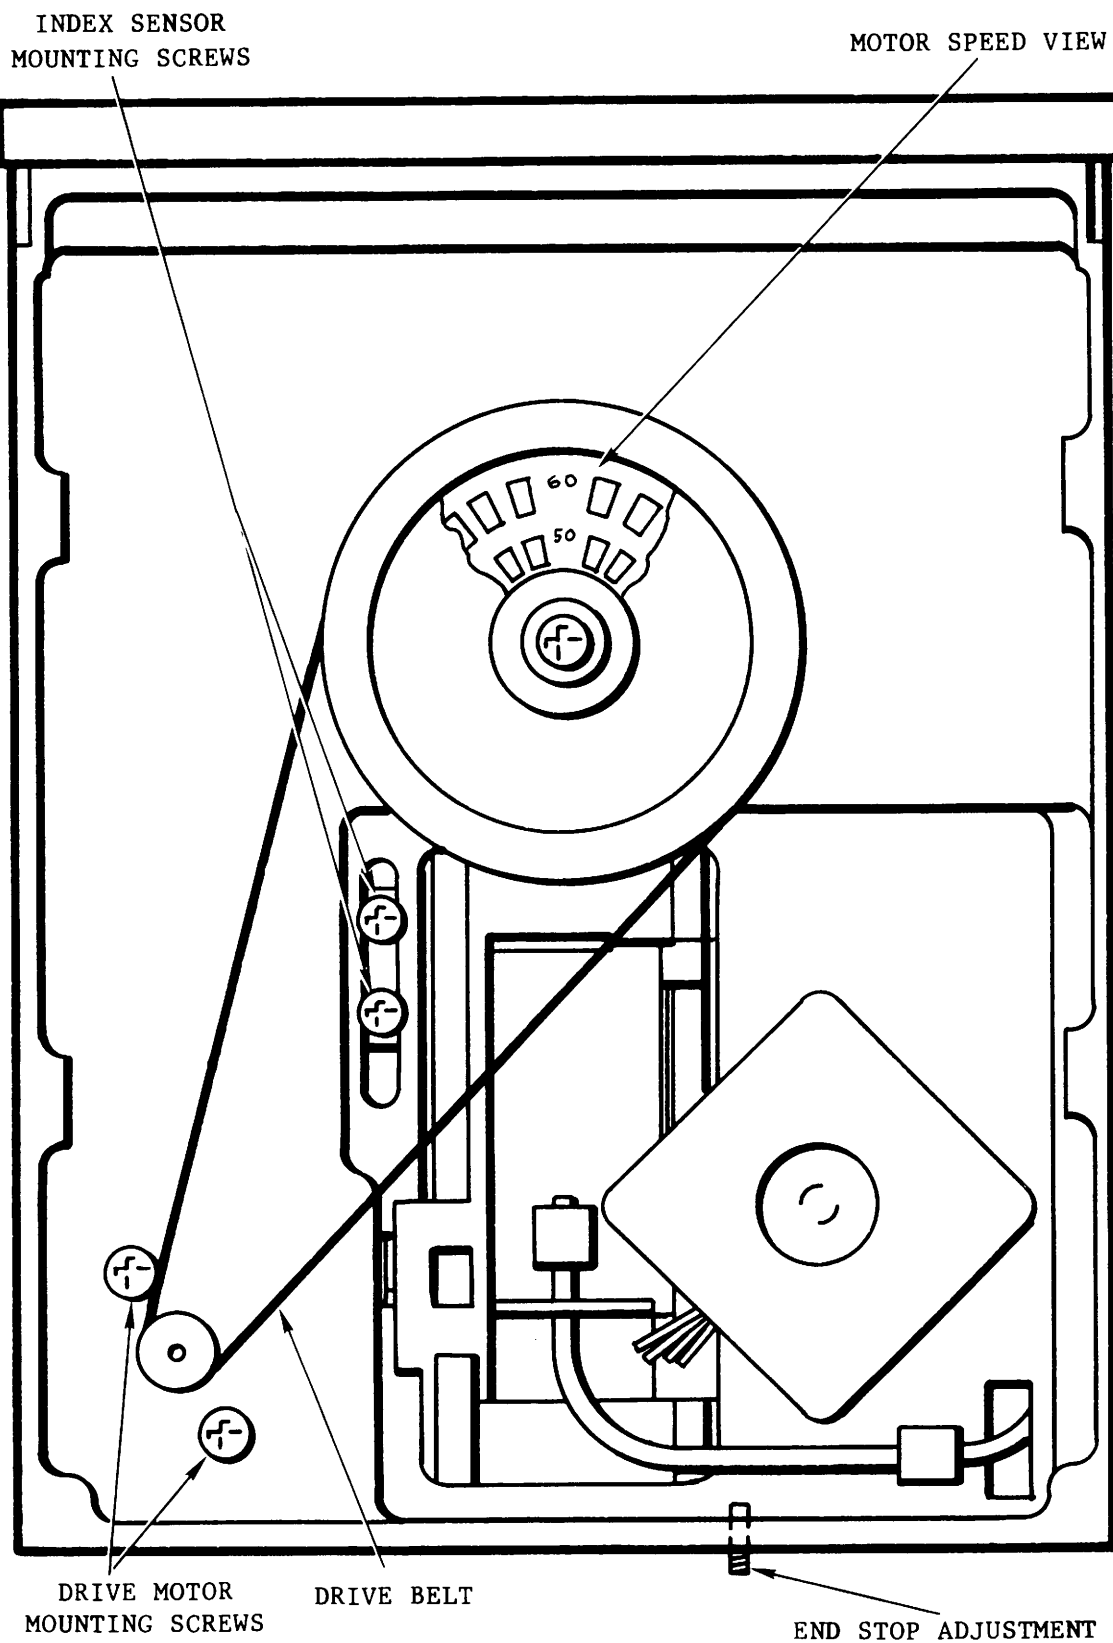

Figure 5-10. MPI 52 Disk Drive Bottom View
- 5) View the spindle pulley through the slot in the bottom cover plate. With flourescent light shining through the slot, observe the strobe effect of the timing marks on the spindle pulley. If operating from 60 Hz power observe the outer trace, if operating from 50 Hz power observe the inner trace (see Figure 5-10).
- 4) Loosen the 2 Phillips head INDEX SENSOR Mounting screws located at the bottom of the drive in the recessed area. See Figure 5-10. (Note the mounting holes are slotted.)
- 2) Check that a maximum track seek (Key 4) and a return to Track 00 (Key 1) will cause the carriage to be within "ten thousandths" (.010) of an inch from the end stop. The end stop is a black setscrew in the frame which can be seen by looking straight down at the rear of the drive (see Figure 5-10).